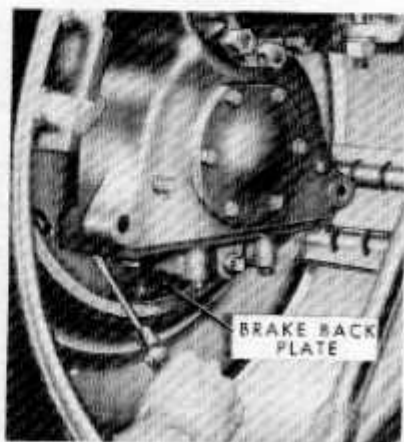

Figure 44
**Brake Adjustment:** Jack the tractor up until both rear wheels are free. Remove the adjusting slot cover from the back plate and, with the brake pedals released, turn the adjusting screw clockwise (see Figure 44) until the brake drags. (Figure 43 illustrates the adjusting mechanism.)